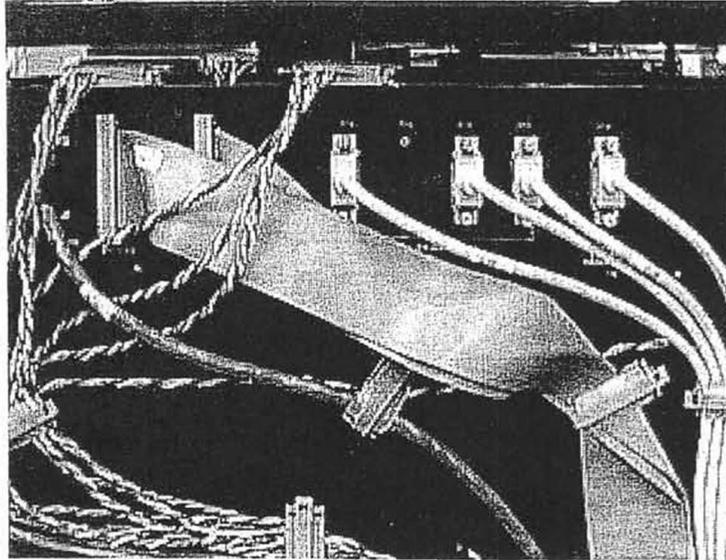

FIGURE 1.2.4B
- Connectors on the back side of figure 1.2.4B